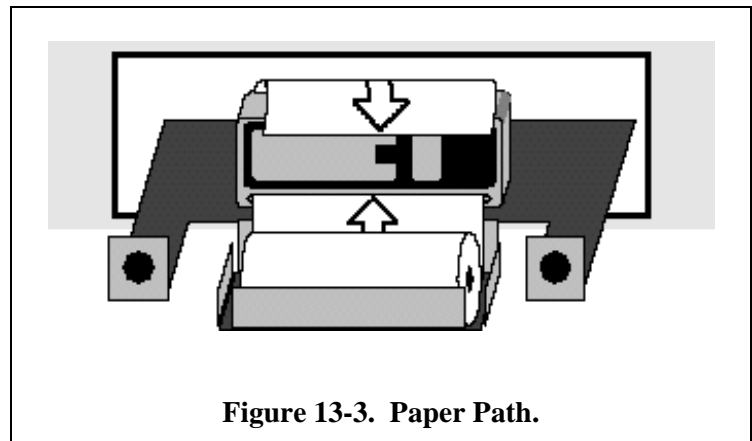

Figure 13-3. Paper Path.
- 5) Feed a new roll of paper into the slot at the bottom of the printer module as shown in Figure 13-3. The coated side of the paper is on the bottom as it feeds into the bottom slot. Use **MENU.PRINTER FEED** to feed paper into the printer. Keep a slight pressure inward on the paper until it catches. Do not fold the paper, keep the leading edge flat and straight. Allow two or three inches of paper to feed out of the top of the printer. You may need to push **MENU.PRINTER FEED** more than once.
- 6) You can use the printer test in the test menu to print a test message. If no printing appears, you may have the paper upside down, check Figure 13-3 again.